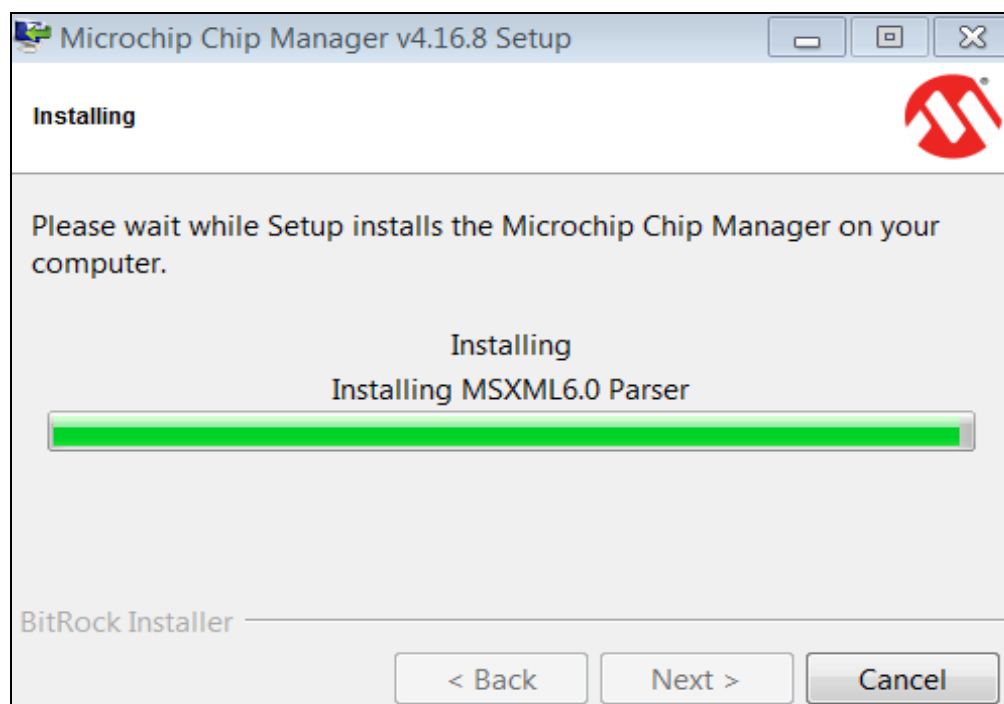

FIGURE 2-6: Setup Window – Installation Progress.
- The application setup window appears, showing the installation progress (see Figure 2-6).